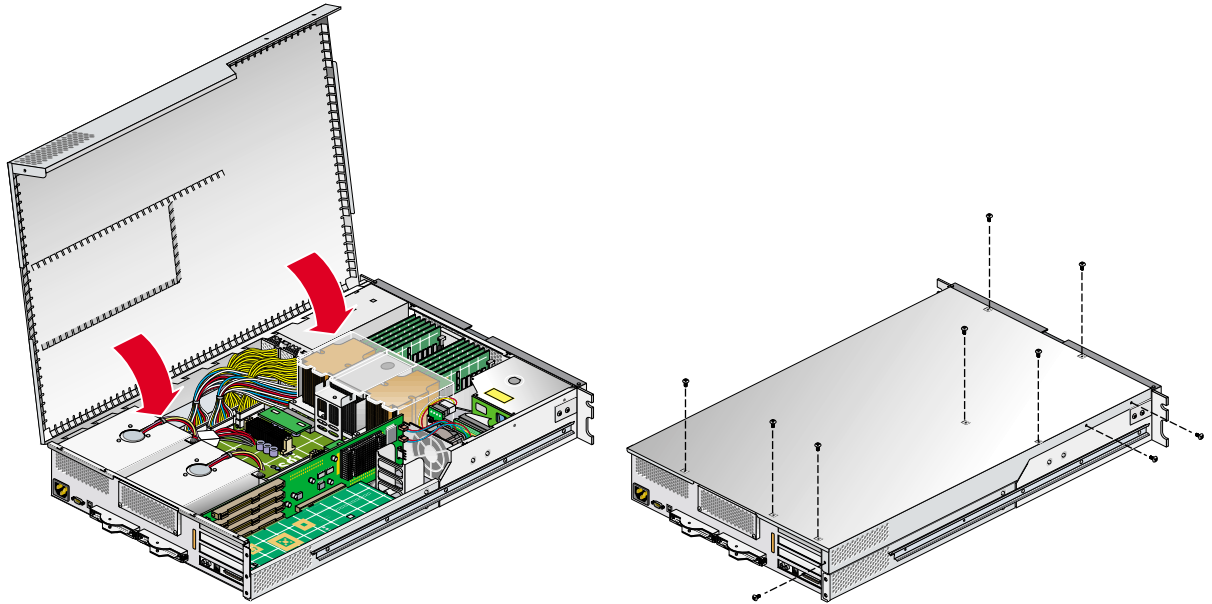

Figure 4-2 Closing the System Cover
3. Close the hinged cover on the system and screw in the ten Phillips screws to secure the cover, as shown in Figure 4-2.